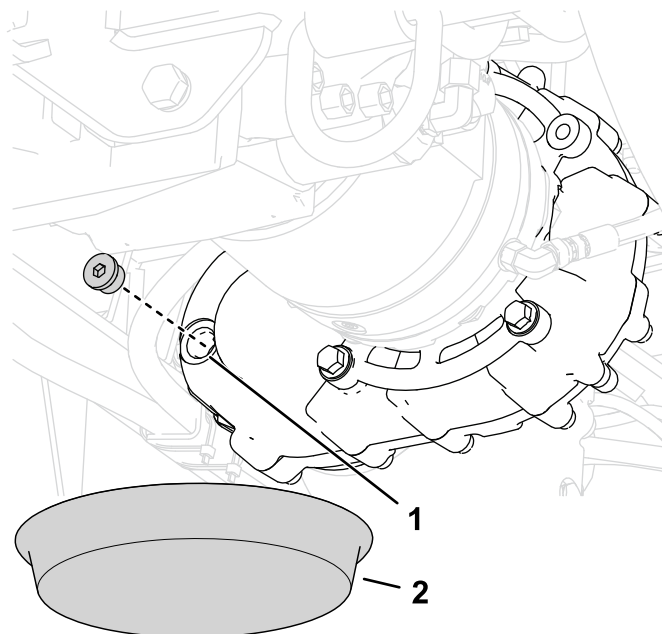

Figure 113
2. Remove the plug from the sight port (Figure 113).
1. Place a drain pan under the gearbox (Figure 113).